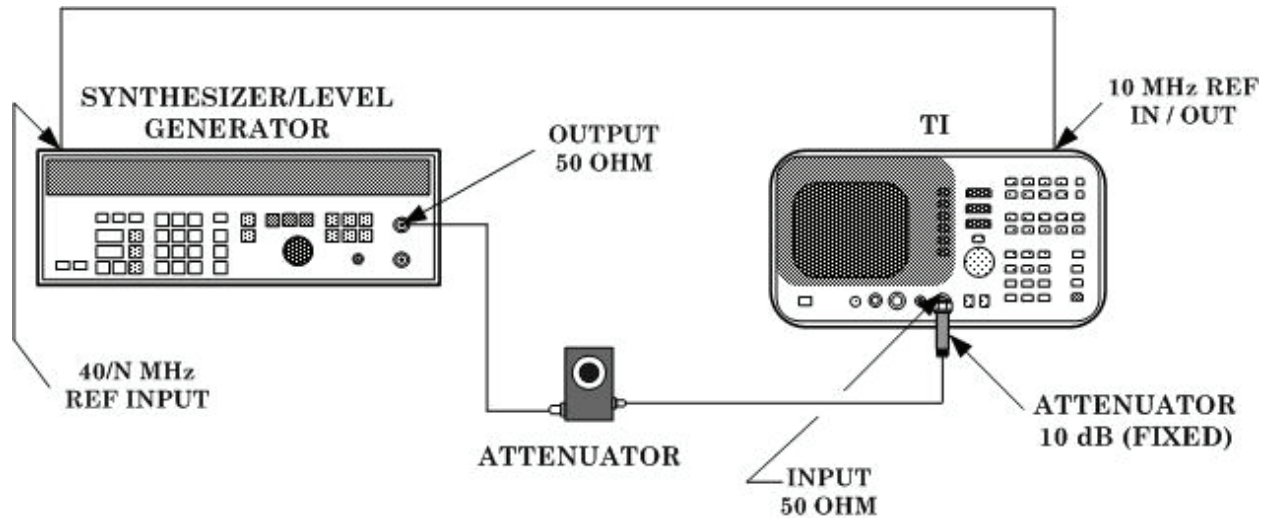

Figure 3. IF gain uncertainty - equipment setup.
- (1) Connect equipment as shown in figure 3.